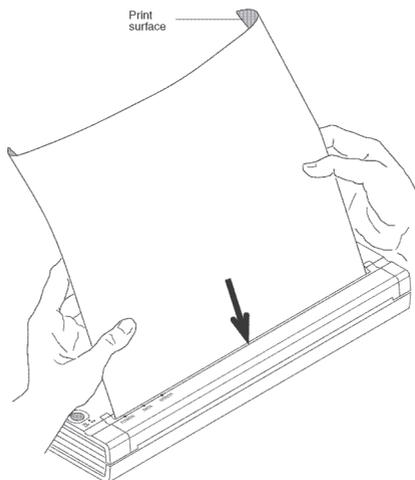

Figure 9. Inserting a sheet of paper
3. Insert a sheet of Brother Genuine Thermal Paper into the paper input slot. Place the print side of the paper away from you, so that it faces the rear of the printer. See Figure 9.